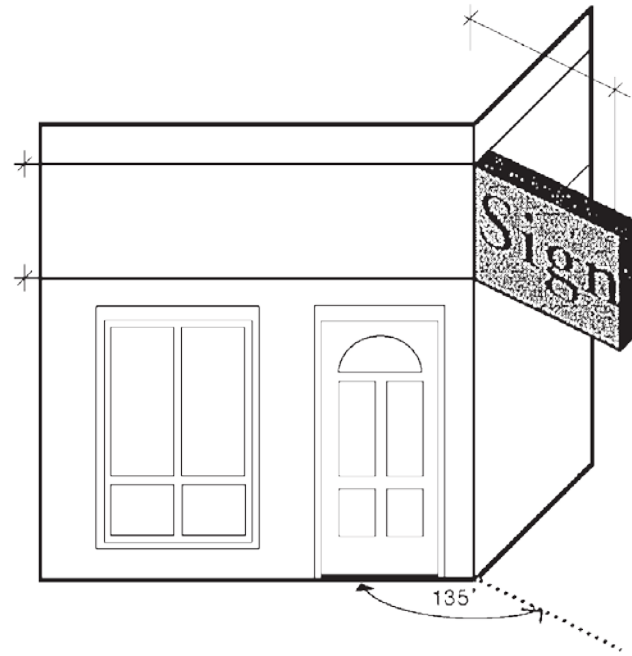

Figure-10
b. Corner projecting signs are those that are visible from two or more intersecting streets, and shall be allowed as long as they do not exceed 40 square feet per face. The use of corner projecting signs shall preclude the use of any other signs. (See Figure-10)